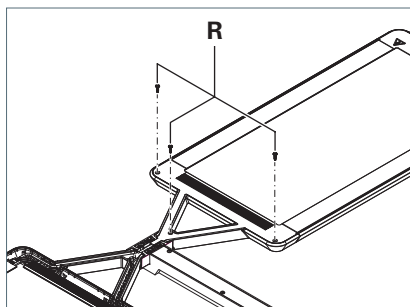

Fig. 26: Screwing the cover tight.
- Screw the cover tight using the three screws **R**, see Fig. 26.